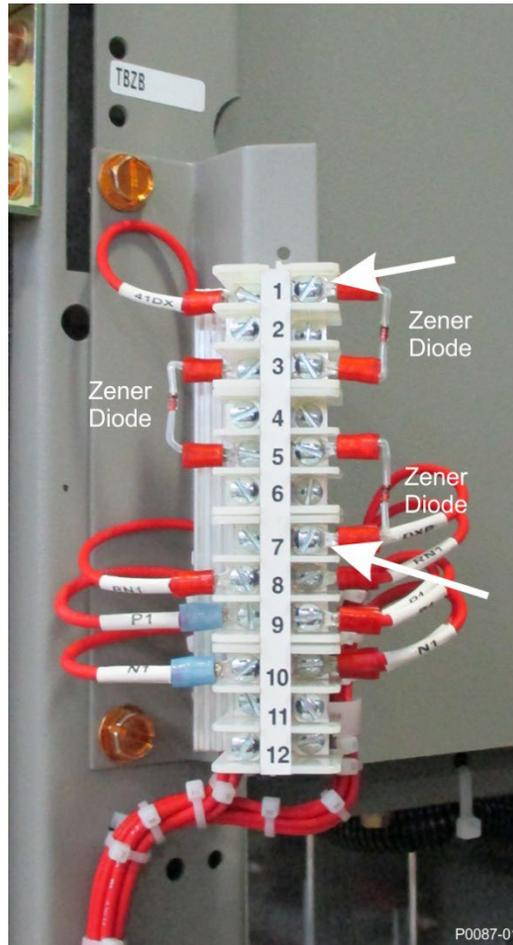

Figure 6. Zener Diode Locations for Retrofitting a DXCB with a DXCB-2
6. Refer to Figure 6. In this example, the Zener diodes are connected to terminals 1, 3, 5, and 7. Install a jumper across terminals 1 and 7.